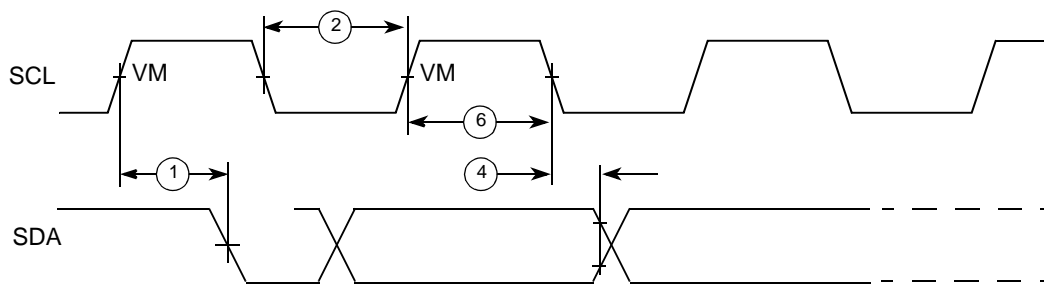

Figure 13. I²C Timing Diagram I
- The actual values depend on the setting of the digital filter frequency sampling rate (DFFSR) bits in the frequency divider register I2CFDR. Therefore, the noted timings in this table are all relative to qualified signals. The qualified SCL and SDA are delayed signals from what is seen in real time on the I²C bus. The qualified SCL and SDA signals are delayed by the SDRAM_CLK clock times DFFSR times two plus one SDRAM_CLK clock. The resulting delay value is added to the value in the table (where this note is referenced). See Figure 13.
Figure 13 through Figure 16 show I²C timings.